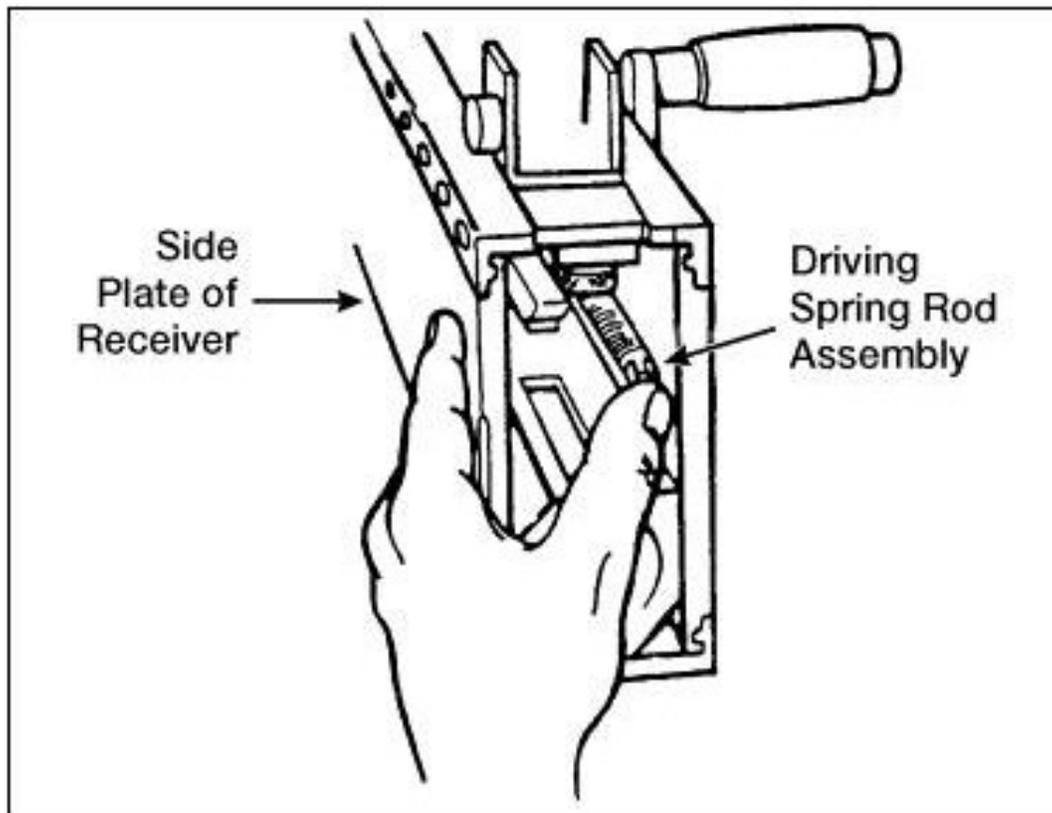

Figure 551-8ST-1025_41 (Installation of the driving spring rod assembly)
g. Install the backplate assembly (Figure 551-8ST-1025_42).
- (1) Align the backplate assembly with receiver grooves.
- (2) Pull the backplate latch lock while lifting up on the backplate latch.
- (3) Lower the backplate assembly down until engaged in receiver.
- (4) Test proper locking by pulling up on the backplate assembly.